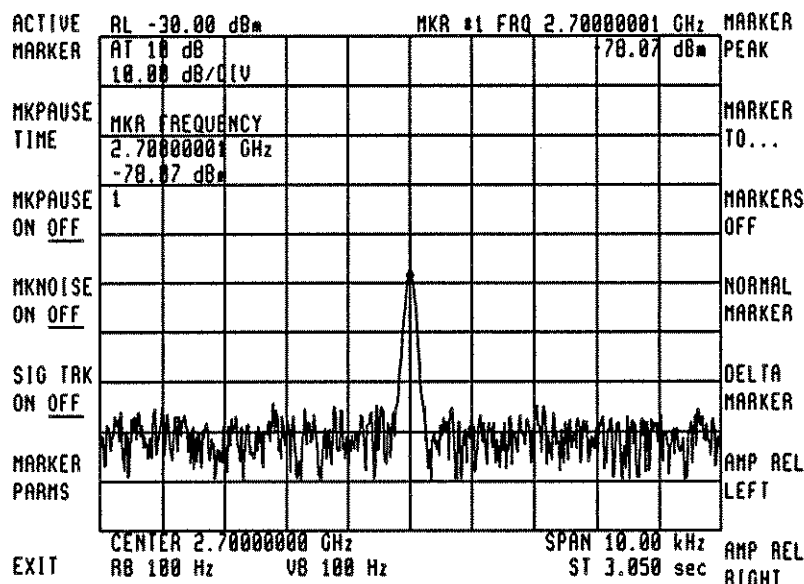

Fig. 52
3. Press **PLOT** on the HP 70205A Display (or the [PLOT] hardkey on the HP 70206A Display). An output plot should appear as in Figure 52.